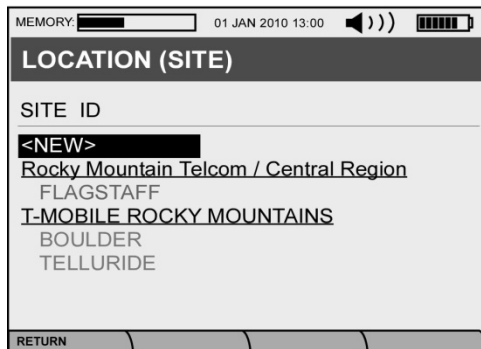

Figure 2.8. Location selection screen.
Figure 2.1 shows the **TEST CONFIGURATION TEMPLATES** screen. When **STRING CONFIGURATION** is selected, the user is prompted through the three (3) screens shown in **Figure 2.8, 2.9 and 2.10**.